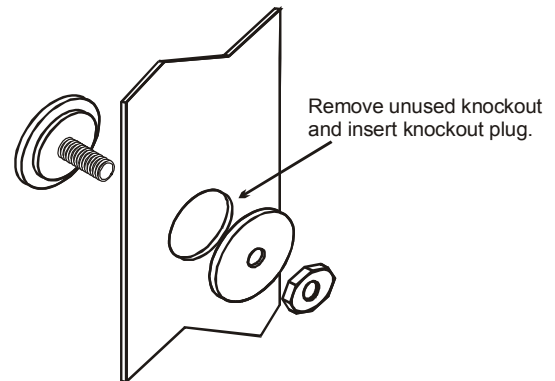

Figure 2: Knockout plug
6. Remove any unused knockouts and insert knockout plugs. (See Figure 2.)